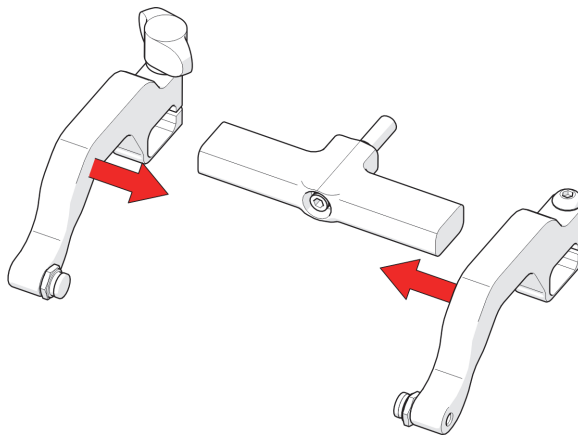

Figure 2-88 Place arms back onto yoke
6. Place the probe holder arms on the yoke, and tighten the arm clamp screw and probe holder adjustment knob (see Figure 2-88 on page 113).